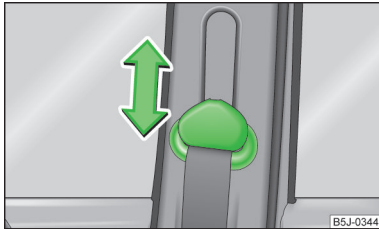

Fig. 7
- › Press the height adjuster and move up or down in the desired direction » Fig. 7.